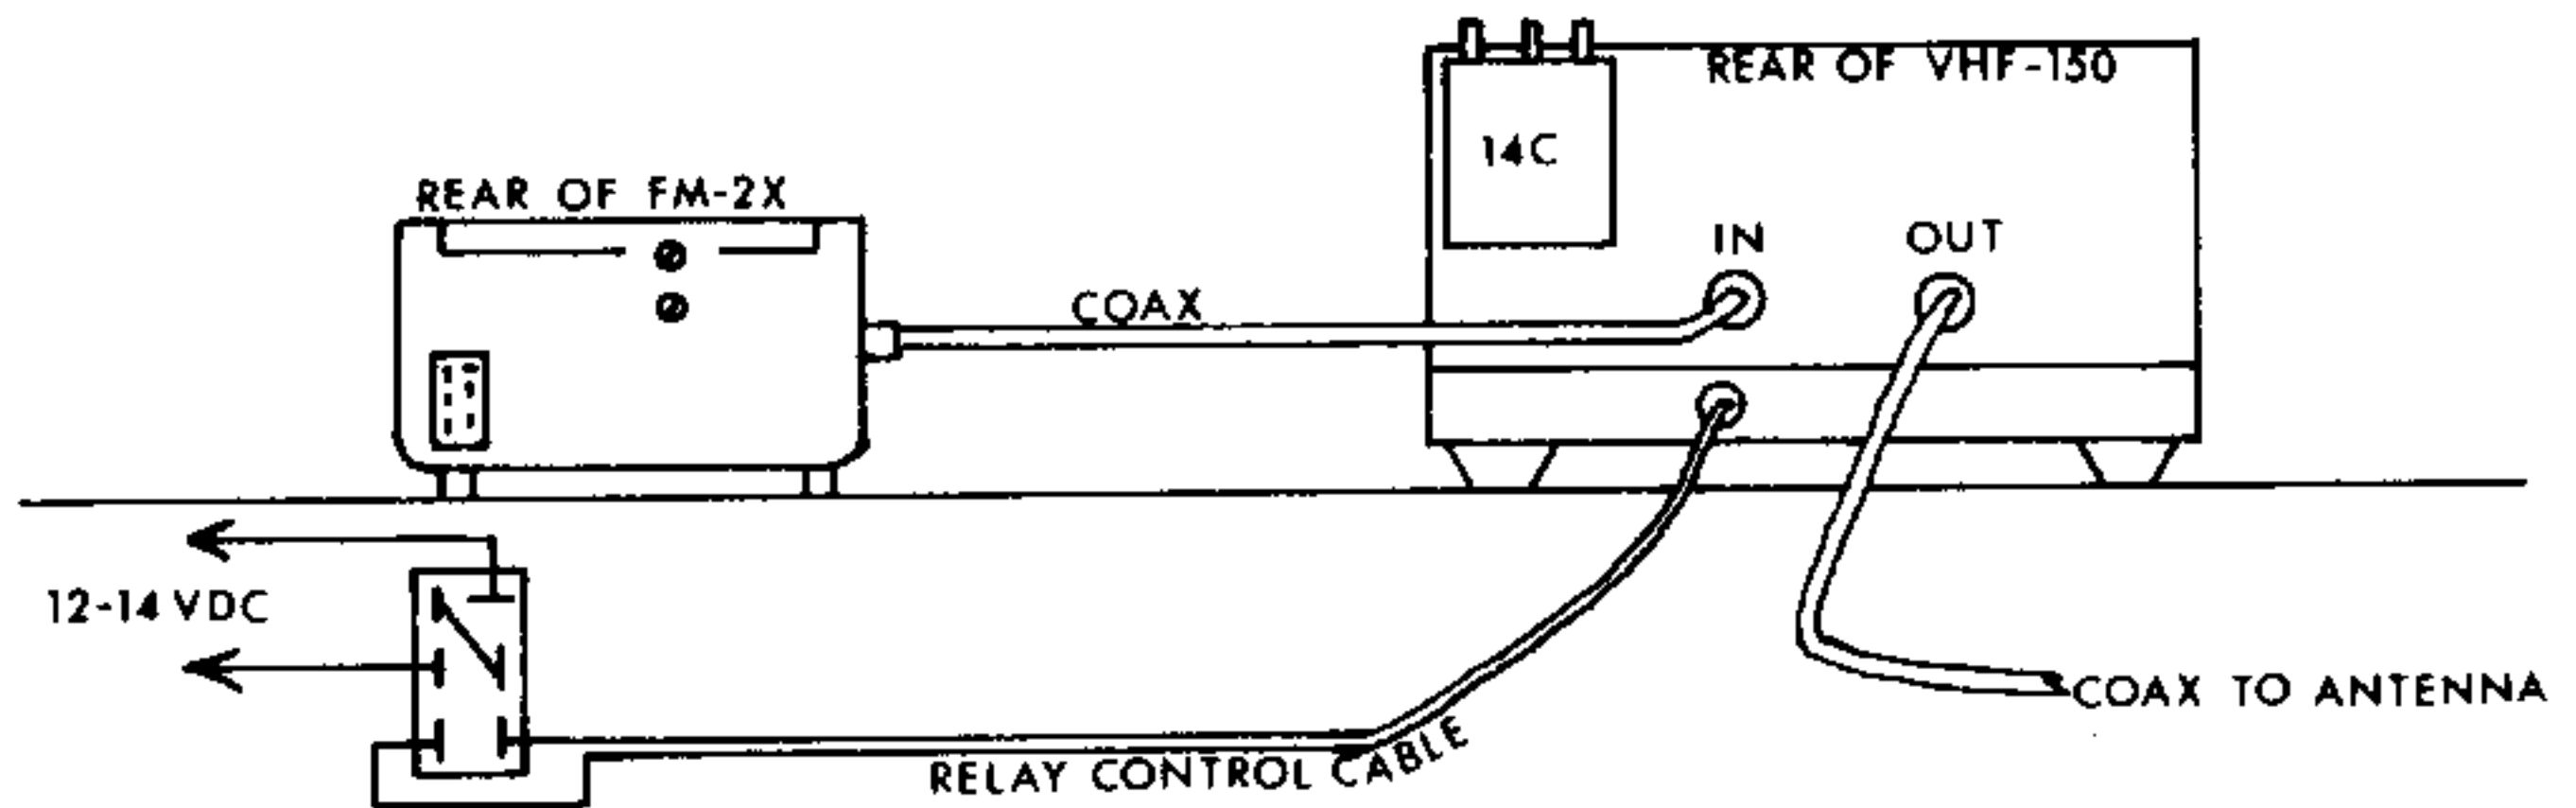

FIG. 4 - TYPICAL MOBILE INSTALLATION USING SWAN FM-2X
Refer to Figure 4 when making the installation. Connect a short length of coaxial cable (RG58U or RG8U) from the output of the FM-2X transceiver to the INPUT connector on the rear of the VHF-150. A PL-259 type connector is required at the amplifier end of the cable. This cable should be as short as practical and preferably not more than 5 feet in length. Remove the 117 volt AC supply from the FM-2X transceiver. Modify the 12 volt DC power cord supplied with the FM-2X, by connecting a two conductor cable (24 AWG stranded parallel cable or equivalent) to the two top pins of the plug (the pins having no wires already soldered to them). (See Figure 4.) Connect a phono plug on the other end. Plug the FM-2X power cord into the rear of the FM-2X. Connect the relay control cable into the relay control jack on the rear of the VHF-150. Install the Swan Model 14C DC converter to the rear of the VHF-150 using the 8-32 screw provided. Connect the VHF-150 to a 12 volt DC power source as shown in Figure 4. Connect the antenna coaxial cable to the OUTPUT connector on the rear of the VHF-150.
- ① Connect amplifier to antenna or dummy load.
- ② Connect relay control cable from Swan FM-2X transceiver to RELAY CONTROL phone jack on rear of chassis.
- ③ Connect output from Swan FM-2X transceiver to INPUT connector on rear of VHF-150 chassis.
- ④ Connect power cable to 117 volts AC (230 volts AC if VHF-150 is wired for 230 volts). If using Mobile, connect amplifier to 12 VDC. (See Figure 4.)
- ⑤ Turn PWR ON switch to "ON" (up) position. Indicator light located below meter will come on.
- ⑥ Allow 2 minutes for warmup of amplifier.
- ⑦ Place the channel switch on the Swan FM-2X to a channel that does not have a crystal installed, or disconnect the coaxial cable between the output of the FM-2X and the input to the VHF-150.
- ⑧ Place the BYPASS TURN-CW-FM SSB function switch in the SSB position.
- ⑨ Depress the mike switch on the FM-2X microphone, and adjust the P.A. BIAS control on the rear of the amplifier until the meter reads 60 ma. of cathode current. Release mike switch.
- ⑩ Place channel switch on FM-2X to a channel that has a crystal installed, or reconnect coaxial cable between output of FM-2X and input of VHF-150.
- ⑪ Set LOAD control to 0 (minimum position).
- ⑫ Set DRIVE control to position No. 5.
- ⑬ Place BYPASS TUNE-CW-FM SSB function switch in the TUNE-CW-FM position.
- ⑭ Depress mike switch and adjust GRID control for MAXIMUM reading on the meter.